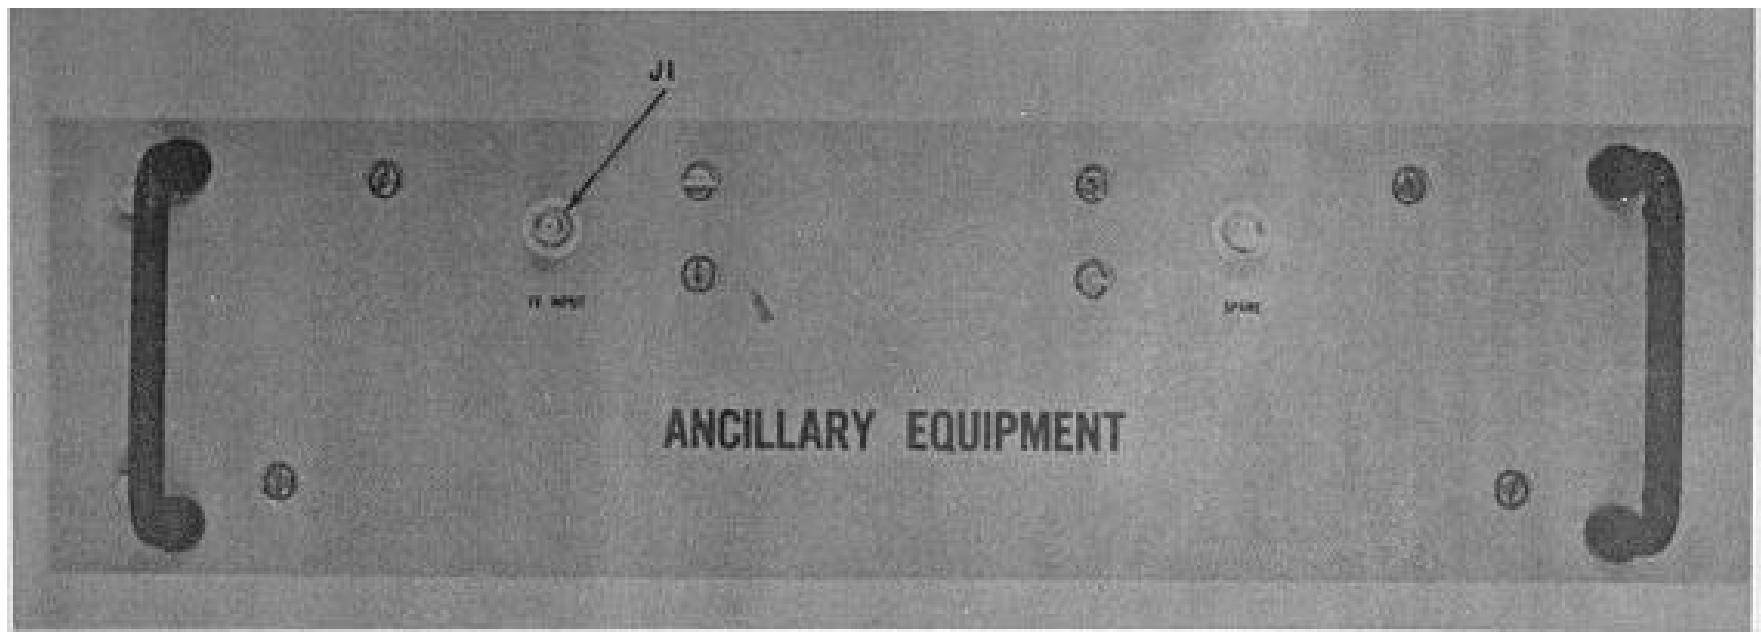

Figure 2-10. Ancillary Equipment Drawer, Front Panel
- b. Connect TE OUTPUT connector on front panel of IF and Baseband drawer to TE INPUT connector on front panel of Ancillary Equipment drawer (figure 2-10) with RG-59/U cable W5.